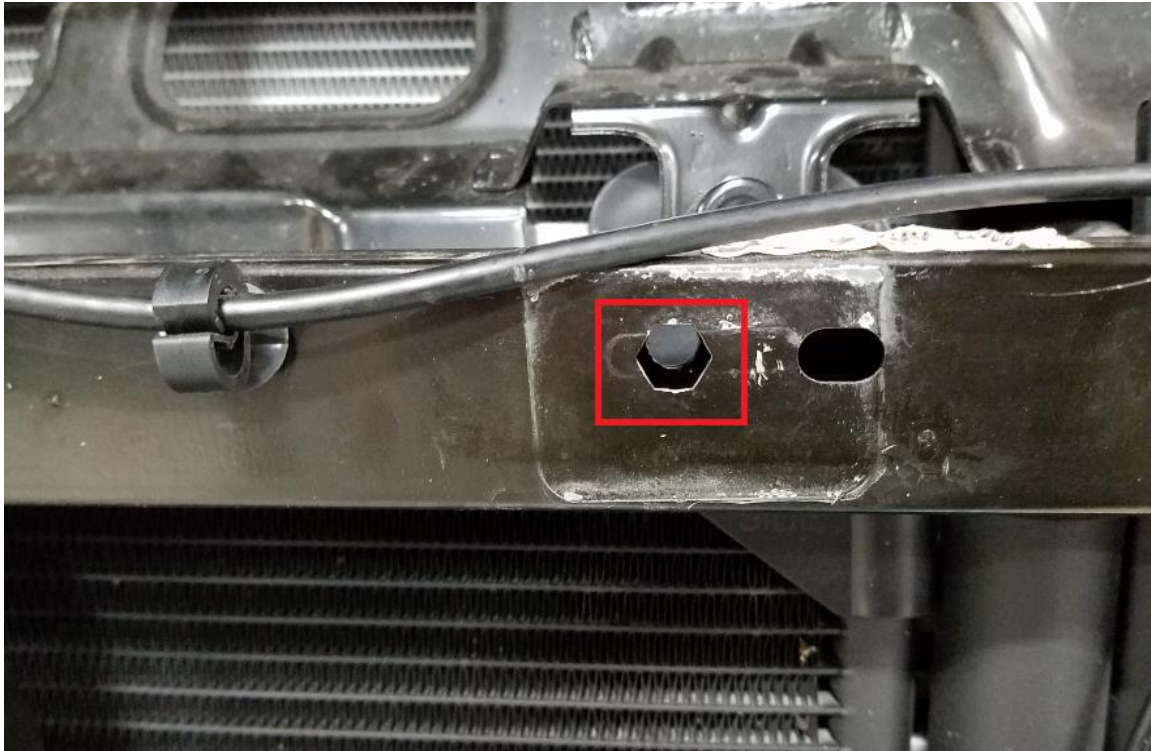

Figure 12
L. Drill a hole through the hexagonal holes in the metal frame for a 1/4" bolt (figure 12). There may or may not be a